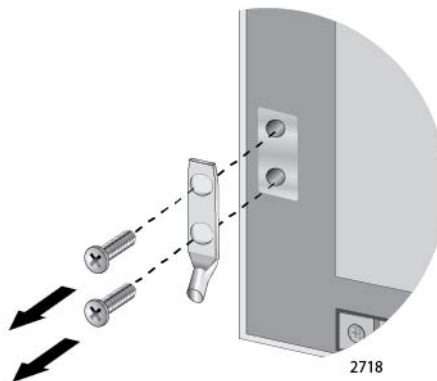

Figure 45. Removing the Grounding Lug
2. Remove the two screws that secure the grounding lug to the rear panel of the chassis, as shown in Figure 45.